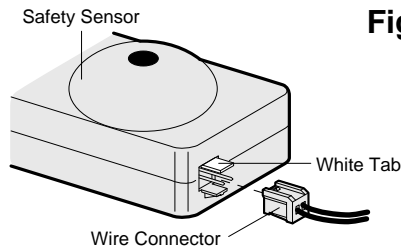

Figure 6
- Insert the wire connector into each sensor and push until you hear a click (Figure 6). The white tab on the sensor should be flush with the back of the connector.